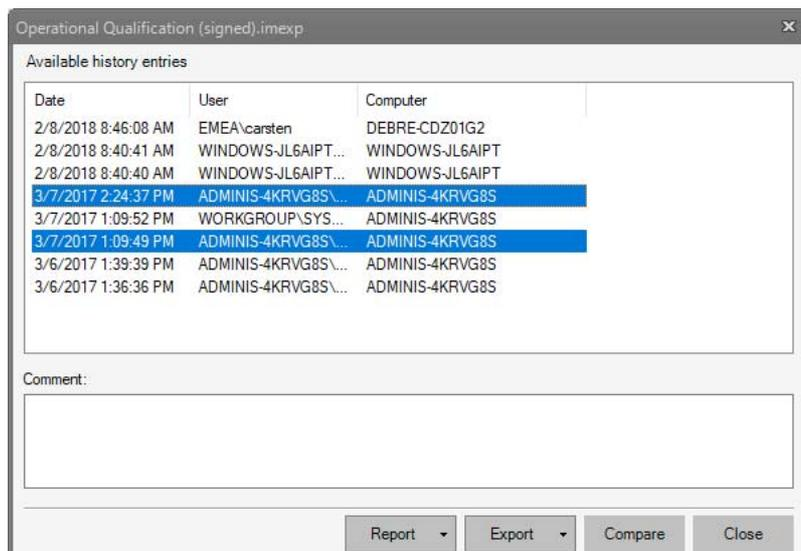

Figure 6-5. History dialog for LabBooks
1. On the toolbar of the LabBook, click **View History**. The **History** dialog for this LabBook opens, see Figure 6-5.
- a. With **History entries**, the History entries Report is opened to show the available history entries as on the initial dialog, see Figure 6-5.